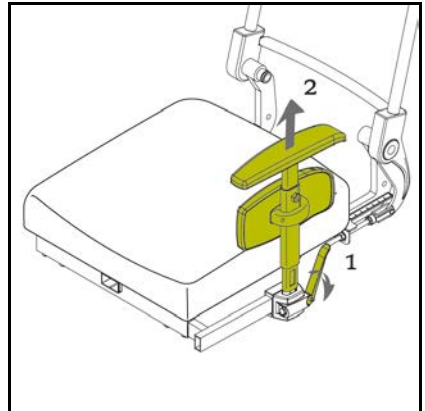

Figure 3.5
**Removing the armrest** (fig 3.5).